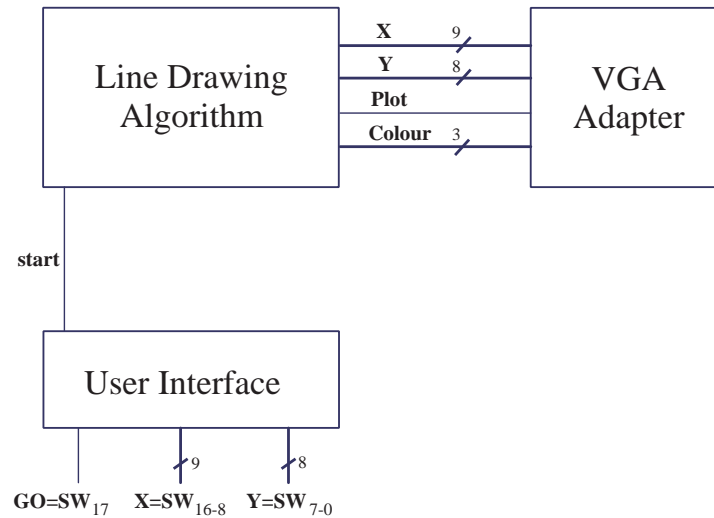

Figure 3: Incomplete system diagram.
To help you complete the lab, a system level diagram is provided in Figure 3. Note that not all signals are shown. You will have to complete the diagram as part of your preparation.
- Complete the system schematic diagram in Figure 3. The three main blocks are shown, but you must specify the remaining signals and their direction.